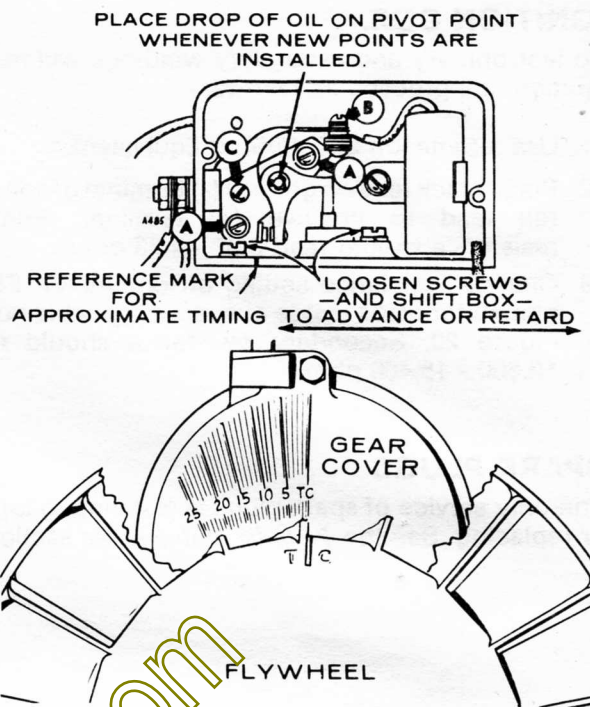

FIGURE 19. IGNITION TIMING
3. Remove the two mounting screws (A) and pull the points out of the box just far enough so screw (B) can be removed. See Figure 19. Replace points with a new set but do not completely tighten mounting screws (A).
4. Rotate flywheel clockwise (facing flywheel) by hand until points are fully open. Turn screw (C) until point gap measures .020 inch with a flat thickness gauge.
Each time new breaker points are installed, place a drop of oil on the point's pivot point, (Figure 19).